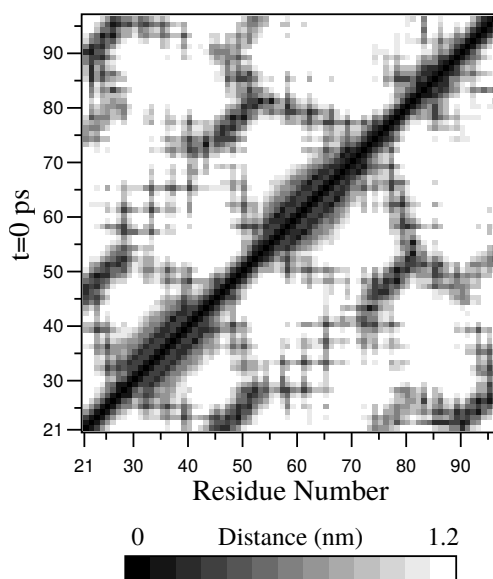

Fig. 5.58: A minimum distance matrix for a peptide *168* (page 544).
- To monitor the *minimum distances between amino acid residues* within a (protein) molecule, you can use the program *gmx mdmat* (page 185). This minimum distance between two residues  $A_i$  and  $A_j$  is defined as the smallest distance between any pair of atoms ( $i \in A_i, j \in A_j$ ). The output is a symmetrical matrix of smallest distances between all residues. To visualize this matrix, you can use a program such as *xv*. If you want to view the axes and legend or if you want to print the matrix, you can convert it with *xpm2ps* (page 257) into a Postscript Fig. 5.58.